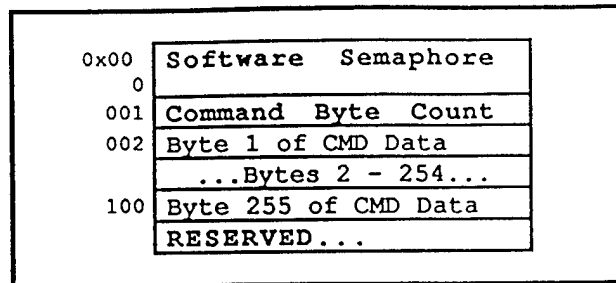

Figure 15: Type II Command Interface
**3.4.3.1 Type II Command Interface** The Command Interface for Type II DUTs will start at 0x000 of the 2k memory mapped interface. The EPP and the DUT must use the software semaphore (location 0x000) to synchronize the passing of data. IMMEDIATELY upon startup the DUT MUST give the semaphore. (write 0xC3 to location 0x0000) The EPP will write the new command data, including the byte count, then set the semaphore to indicate a new command is ready. (write 0x3C to location 0x0000) Upon detecting the semaphore set for a new command, the DUT reads the byte count, followed by reading the command data. After it has collected the current command, the DUT sets the semaphore to indicate it has read the command. (write 0xC3 to location 0x0000) As indicated in Fig.15, any command may contain up to 255 bytes of actual data.